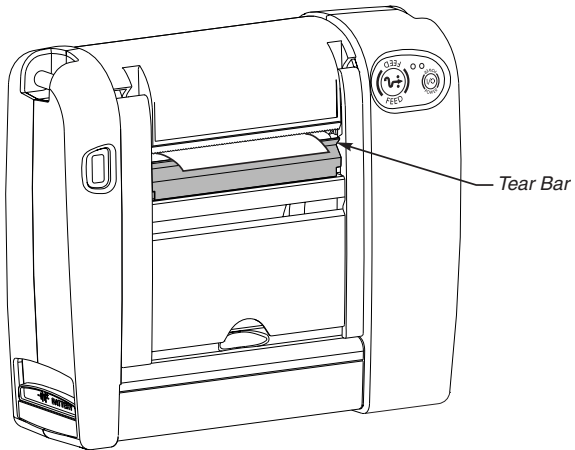
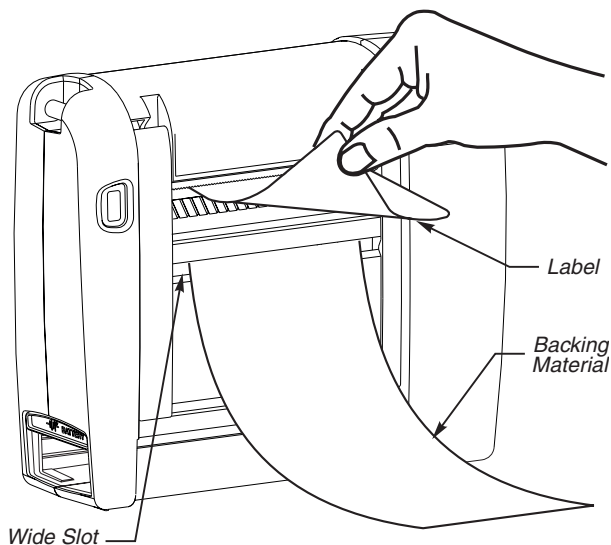
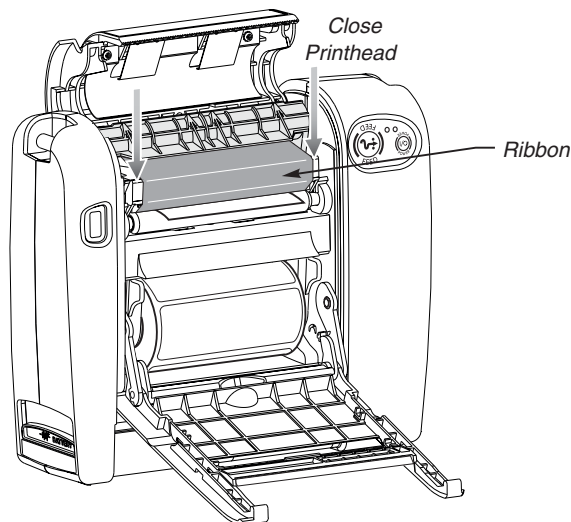

FIGURE 8
FIGURE 10
FIGURE 16
11. Swing up the media access door, ensuring that the media extends over the tear bar (refer to Figure 8).
11. Swing up the media access door, ensuring that the media liner is threaded through the wide slot in the media access door (refer to Figure 10).
☞ *NOTES. To ensure optimal print quality, make sure that the backing material is flush against the peel bar (as shown in Figure 10). If it starts to “loop “ away from the peel bar, gently pull down on the backing material*
- Close the printhead (refer to Figure 16) and the top cover. Swing up the media access door, ensuring that the media is properly extending out of the printer (see Figure 8 for Tear-Off, or Figure 10 for Peel-Off).